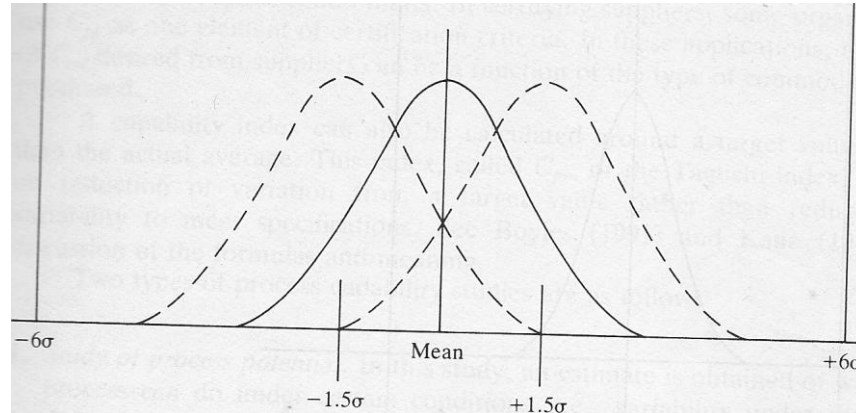

Fig. 8 Six-sigma concept of process capability
- For example, if specification limits are at $\pm 6\sigma$ (see fig. 8) and if the mean shifts $\pm 1.5\sigma$, then 3.4 PPM will be beyond specification limits